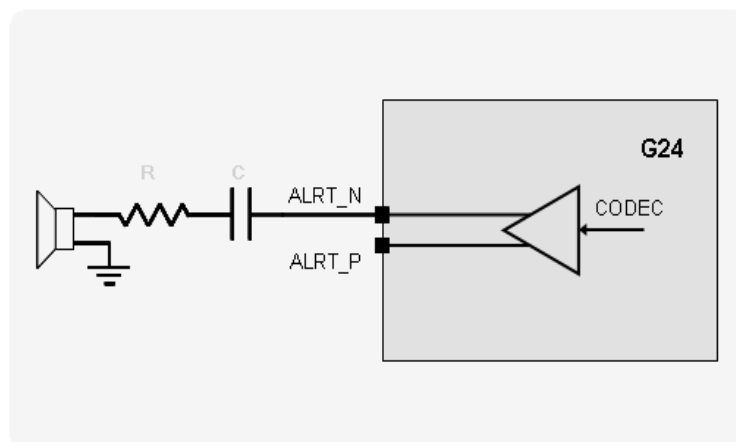

Figure 2-22: Single-ended Loudspeaker Circuit
**Important:** When implementing a single ended loudspeaker design, it is required to place a series capacitor and resistor on the alert output line, as illustrated in Figure 2-22. The capacitor should be of low tolerance with values of  $C = 10\text{-}22\ \mu\text{F}$ . The resistor value should be  $R = 0\ \Omega$  at the design stage, but may be changed to a different value during audio safety testing, in case attenuation in the speaker gain is required.